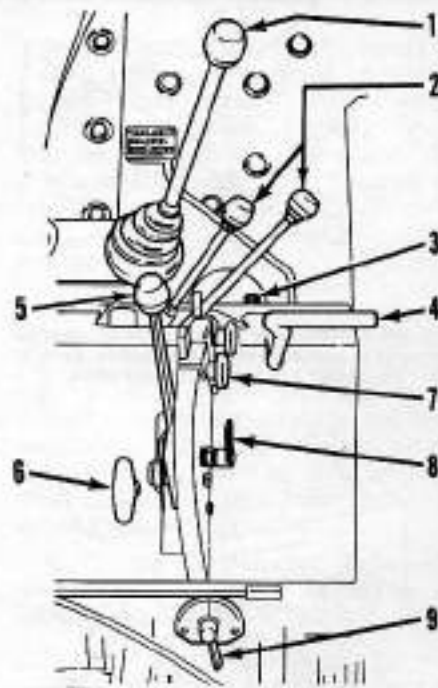
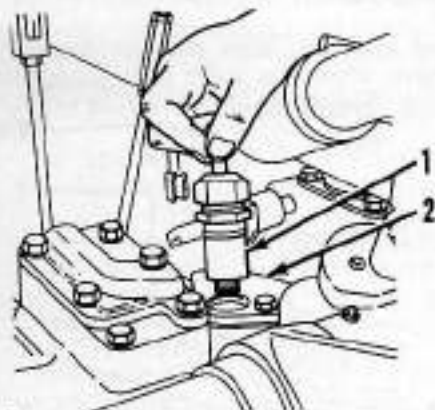

Fig. 198—View showing typical control lever arrangement. Location may vary according to model and equipment.
Fig. 200 - Dump valve (1) and plate (2) must be removed to gain access to bleed points. Refer to paragraph 357 for correct procedure.
357. Make certain transmission fluid level is at correct operating level and select draft control position on hydraulic controls as outlined in paragraph 358. Push quadrant lever (5—Fig. 198) to LOWER (forward) position. Place clean container below pump outlet pipe at pressure relief valve and disconnect pipe. See Fig. 199. Place engine stop control in STOP position, engage starter and turn engine over until oil flowing from relief valve is free of air. Reconnect pipe. On all models equipped with dump valve except 1690, remove dump valve (1—Fig. 200) and plate (2). Reinstall dump valve and open by pulling knob up. Turn plug for by-pass valve, which was under plate (2), open
two turns. Move quadrant lever (5 - Fig. 198) fully rearward to **SELECT** position. Start and run engine until air free oil flows from by-pass valve plug. Move quadrant lever forward out of **SELECT** position, tighten by-pass valve plug, remove dump valve, reinstall plate (2) and dump valve.
On all models without dump valve there will be two plugs under plate (2 - Fig. 200) which must be loosened. Place quadrant lever in **SELECT** position, run engine until air free oil flows from each plug, then move quadrant lever out of **SELECT** position and stop engine.
tor dial to **DRAFT** position (1 - Fig. 204). Turn lowering control knob (3 - Fig. 198) fully in, then out four turns. If equipped with combining valve, place control knob (1 - Fig. 203) in separate flow position. On all models attach implement and while tractor is in motion begin moving quadrant lever toward **LOWERING** position until implement reaches desired working depth. Mark position of quadrant lever with lever stop (7 - Fig. 198). After raising implement return quadrant lever to this position, implement will return to desired depth. It may be necessary to adjust lowering valve (3 - Fig. 198) to attain lowering rate to suit individual requirements.
**359. POSITION CONTROL.** Position control is used for an implement which should maintain a certain height above the ground. To prepare tractor hydraulic system for position control operation make certain lift arms are set in fixed position (Fig. 202), move and hold quadrant lever (5 - Fig. 198) in **SELECT** position and move selector dial control to **POSITION CONTROL** (2 - Fig. 204). Turn lowering control valve knob (3 - Fig. 198) fully in, then out four turns. If equipped with combining valve, place control knob (1 - Fig. 203) in separate flow position. On all models attach implement, move quadrant lever until implement is at desired working height and mark lever with lever stop (7 - Fig. 198).
this position quadrant lever (5—Fig. 198) will operate a single acting remote cylinder. Fluid pressure is directed to remote cylinder instead of rockshaft cylinder using the three-way valve (10—Fig. 192). A remote control valve for operating remote cylinders independently from lift control system is also available.